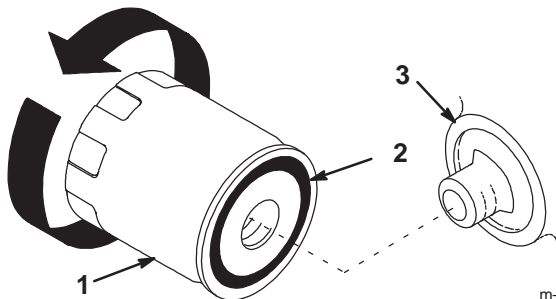

Figure 26
- Remove the old filter and wipe the filter adapter (Fig. 26) gasket surface.
- Apply a thin coat of clean oil to the rubber gasket on the replacement filter (Fig. 26).
- Install the replacement oil filter to the filter adapter. Turn the oil filter clockwise until the rubber gasket contacts the filter adapter, then tighten the filter an additional 2/3 to 1 turn (Fig. 26).